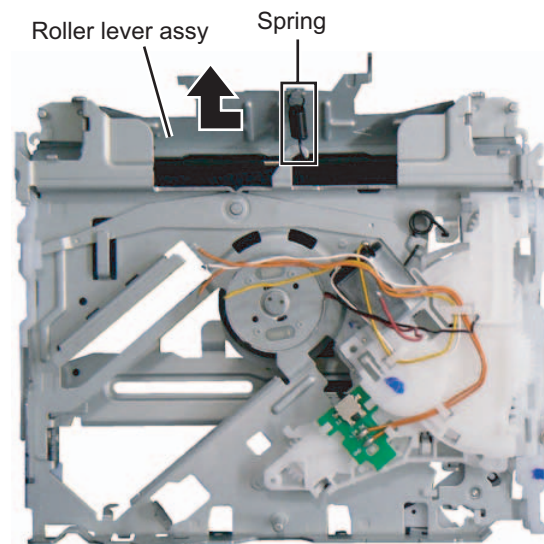

Fig.7
3.2.4 Removing the Roller lever assy (See Fig.7)